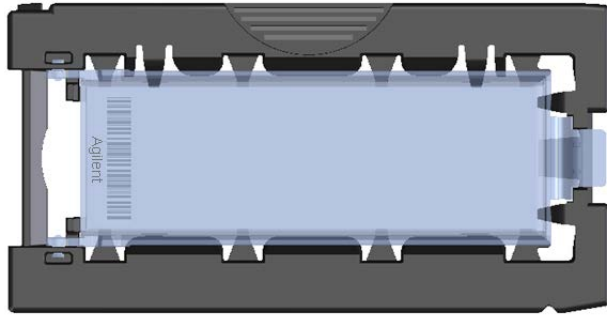

Figure 21 Slide inserted in slide holder – cover closed
- f Close the plastic slide cover, gently pushing on the tab end until you hear it “click”. See **Figure 21**. Make sure that the slide holder is completely closed.